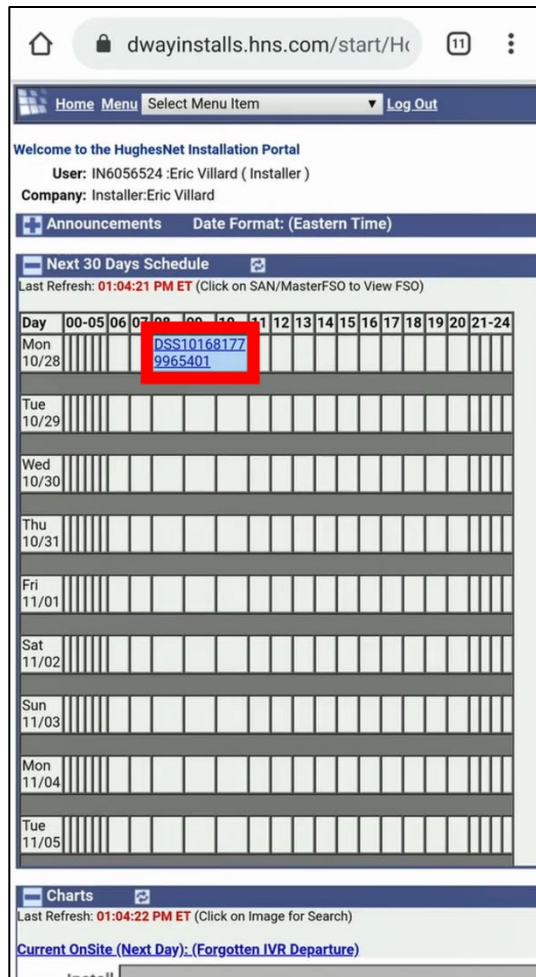

Figure 96: Select current FSO from the Installation Portal calendar
2. In your calendar of upcoming installations, tap the link for your current FSO (outlined in Figure 96).